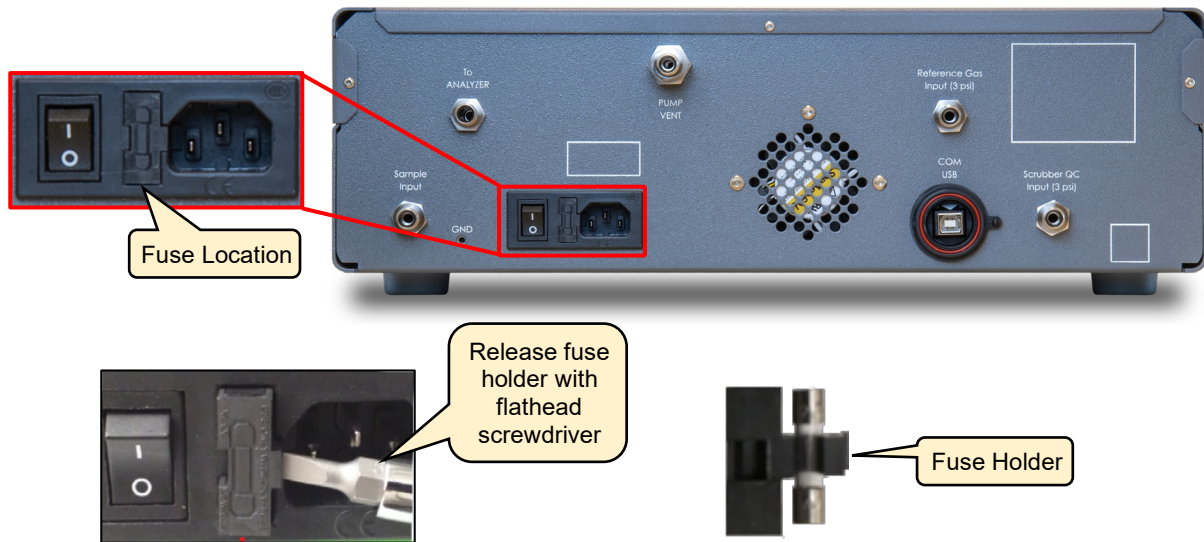

Figure 63: ZRM Fuse Replacement
3. Insert a flathead screw driver under the tab on the fuse holder as shown in Figure 63.